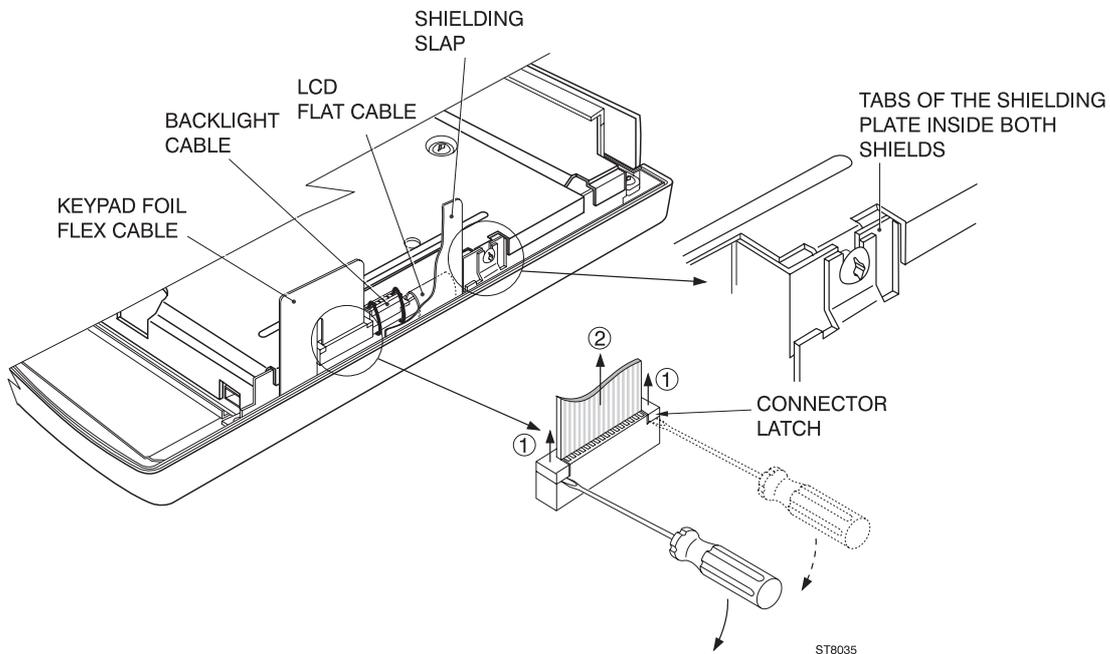

Figure 6-2. Flex Cable Connectors
2. Disconnect the LCD flex cable, and the keypad foil flat cable, see Figure 6-2.
2. Do not forget to install the power connector insulator (item 3) and the LED holder (item 6).
3. Notice the correct position of the shielding box, main PCA (notice the shielding plates on the PCA), and shielding plate, as shown in Figure 6-2. The tabs of the shielding plate must be inside both shields.